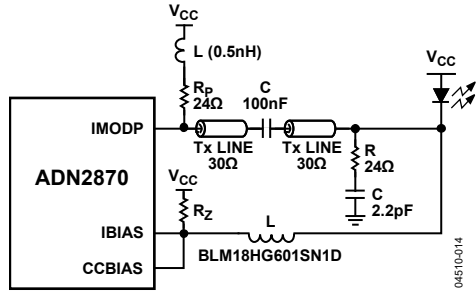

Figure 32. Recommended Interface for ADN2870 AC Coupling
The schematic in Figure 32 describes the recommended circuit for interfacing the ADN2870 to most TO-Can or coax lasers. These lasers typically have impedances of 5 Ω to 7 Ω and have axial leads. The circuit shown works over the full range of data rates from 155 Mbps to 3.3 Gbps including multirate operation (with no change to PAVCAP and ERCAP values); see the Typical Performance Characteristics for multirate performance examples.
Coax lasers have special characteristics that make them difficult to interface to. They tend to have higher inductance, and their impedance is not well controlled. The circuit in Figure 32 operates by deliberately mismating the transmission line on the laser side, while providing a very high quality matching network on the driver side. The impedance of the driver side matching network is very flat vs. frequency and enables multi-rate operation. A series damping resistor should not be used.
The 30 Ω transmission line used is a compromise between drive current required and total power consumed. Other transmission line values can be used, with some modification of the component values. The R and C snubber values in Figure 32, 24 Ω and 2.2 pF, respectively, represent a starting point and must be tuned for the particular model of laser being used. Rp, the pull-up resistor, is in series with a very small (0.5 nH) inductor. In some cases, an inductor is not required or can be accommodated with deliberate parasitic inductance, such as a thin trace or a via placed on the PC board.
Recommended component layouts and gerber files are available by contacting sales at Analog Devices. Note that the circuit in Figure 32 can supply up to 56 mA of modulation current to the laser, sufficient for most lasers available today. Higher currents can be accommodated by changing transmission lines and backmatch values; contact sales at Analog Devices for recommendations. This interface circuit is not recommended for butterfly-style lasers or other lasers with 25 Ω characteristic impedance. Instead, a 25 Ω transmission line and inductive (instead of resistive) pull-up is recommended; contact sales for recommendations.
In the circuits shown in Figure 32 and Figure 33, Resistor Rz is required to achieve optimum eye quality. The recommended value is approximately 200 Ω ~ 500 Ω.
**Table 6. ADN2870 Response to Various Single-Point Faults in AC-Coupled Configuration, as Shown in Figure 32**